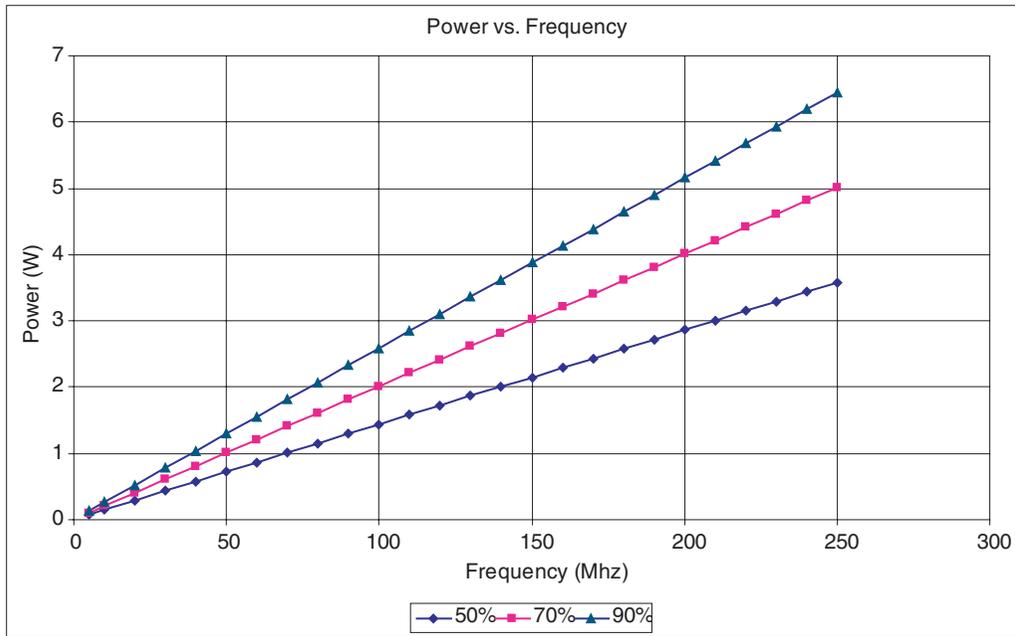

Figure 23: Power vs. Frequency (Absolute 50%, 70%, and 90% of the Available Resources on Chip)
**Figure 23** illustrates the theoretical worst-case scenarios for 50%, 70%, and 90% utilizations of the 6600-516 package. The resources of the device are divided exactly in half; meaning, for 50% utilization, exactly 50% of the I/Os, Logic Cells, RAM blocks, clock network, etc. are utilized. These situations may never occur in a real design, but they do provide a very rough quantitative measure of power consumption when talking in terms of 50% or 70% utilization of an EclipsePlus device.